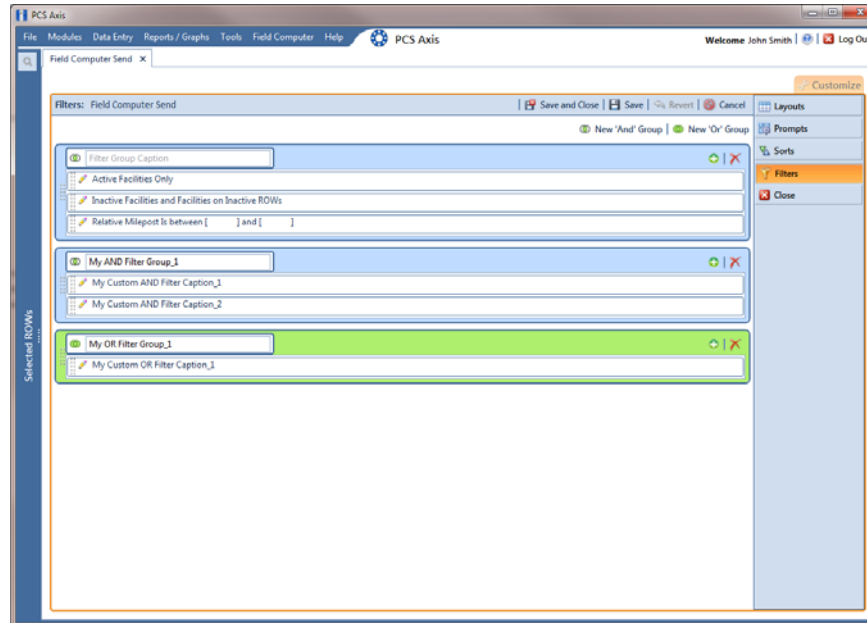

Figure 12-37. Filters
- Click the **Customize** tab , then the **Filters** button  to open the *Filters* page (Figure 12-37, page 515).